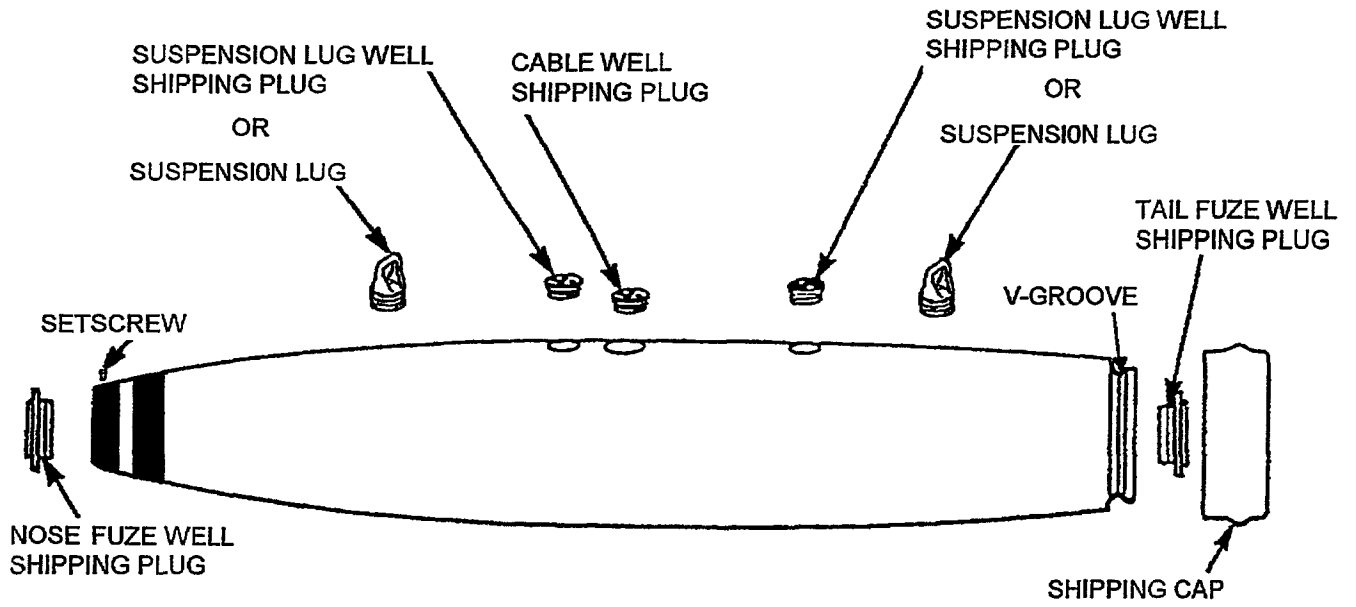

Figure 5-9D. Bomb Preparation for Storage
- a. Using PPE per MSDS, lightly grease threads in nose and tail fuze wells (Figure 5-9D).
- c. Install both nose and tail fuze well shipping plugs (Figure 5-9D) and hand-tighten.
- e. Install setscrew previously removed (Figure 5-9D).